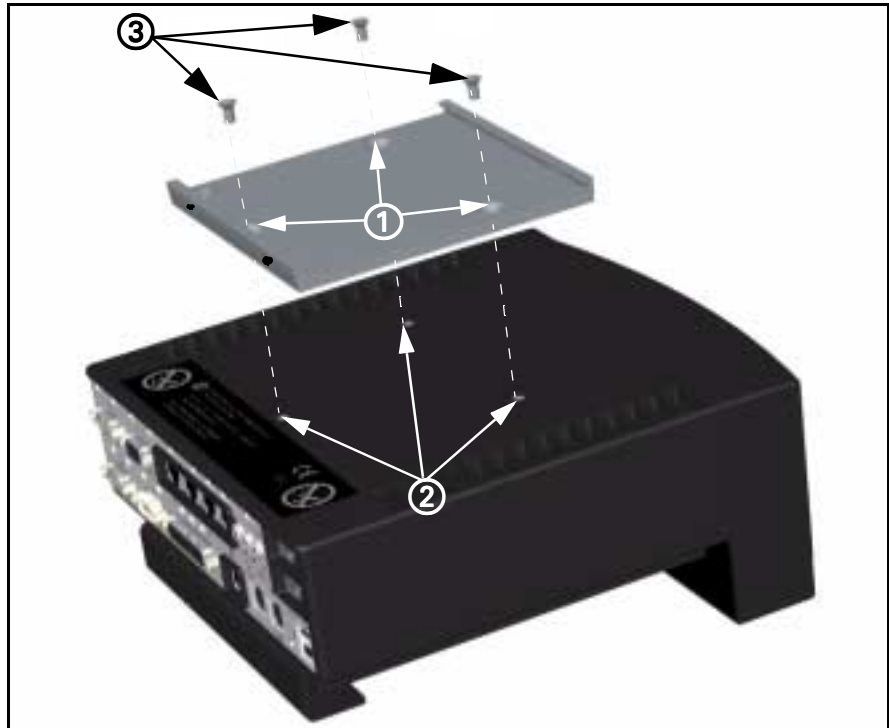

Figure 10-1 MDS with mounting bracket
3. Align mounting bracket screw holes (① in Figure 10-1) to screw holes on top of MDS (② in Figure 10-1).
4. Insert and tighten 3 Phillips-head screws (supplied, ③ in Figure 10-1).